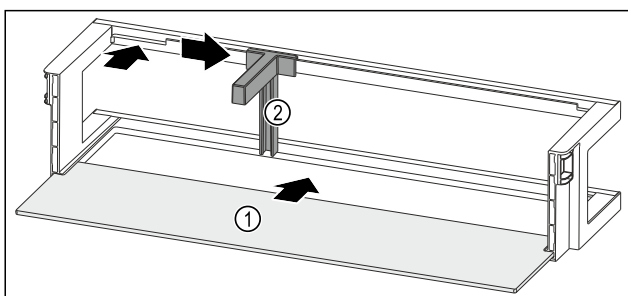

Fig. 98 Door rack with shelf
- Push the shelf Fig. 98 (1) into the side recesses.
- Insert the bottle holder Fig. 98 (2) in the recess.
- Push the bottle holder Fig. 98 (2) to the desired position to the side.